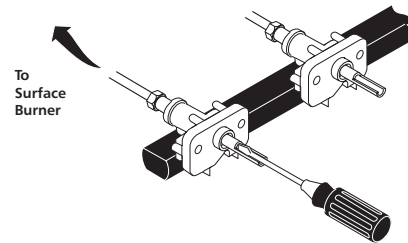

Figure 9
- Insert a thin-bladed screwdriver into the hollow valve stem and engage the slotted screw inside. Flame size can be increased or decreased with the turn of the screw. Turn counterclockwise to increase flame size. Turn clockwise to decrease flame size. (See Figures 9 and 10).